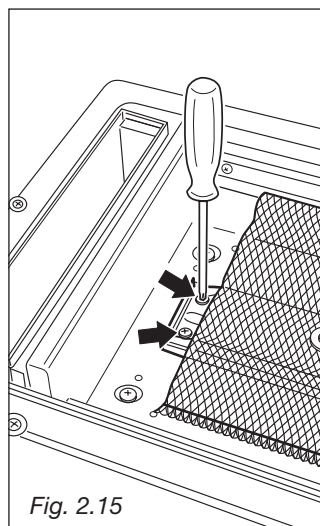

Fig. 2.15
- Unscrew the no. 2 (two) burner front fixing screws (fig. 2.15).